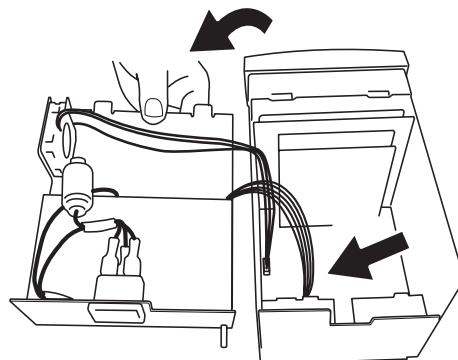

Figure 11.2b Lift and invert cover
3. Lift and turn the cover over as shown in figure 11.2b, to reveal the internal structure of the unit.